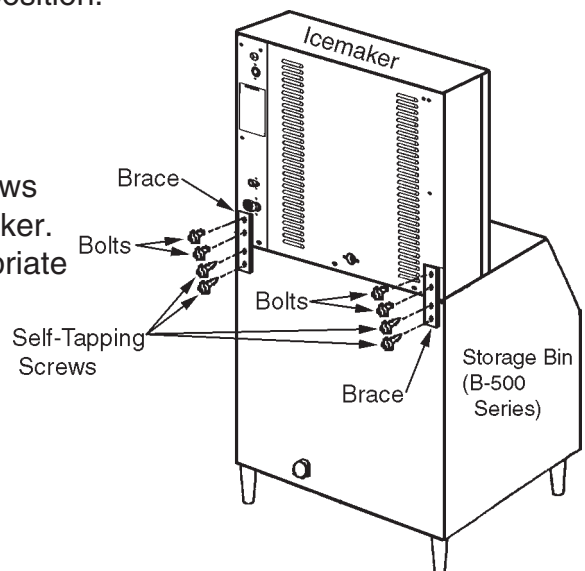

Fig. 2
- 4) Secure the icemaker to the storage bin by using the two braces, four bolts, and four self-tapping screws provided. The four bolts come attached to the icemaker. Use the four self-tapping screws to make the appropriate holes in the storage bin. See Fig. 2.